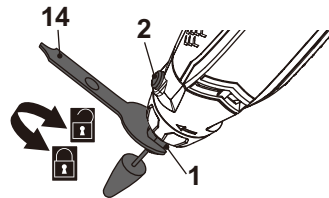

Fig. 5
- > Press the spindle lock button (2) and hold it in position while tightening the clamp nut (1a) with the wrench (14) (Fig. 5).